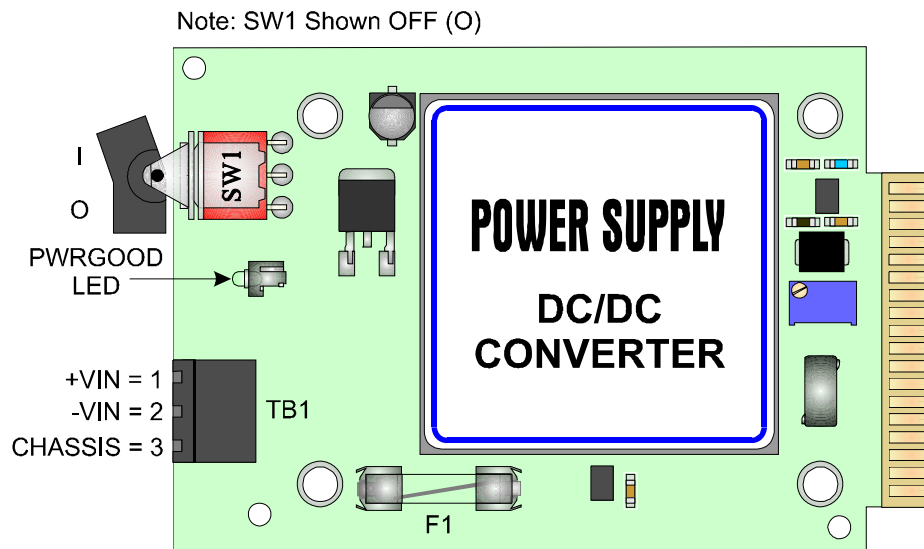
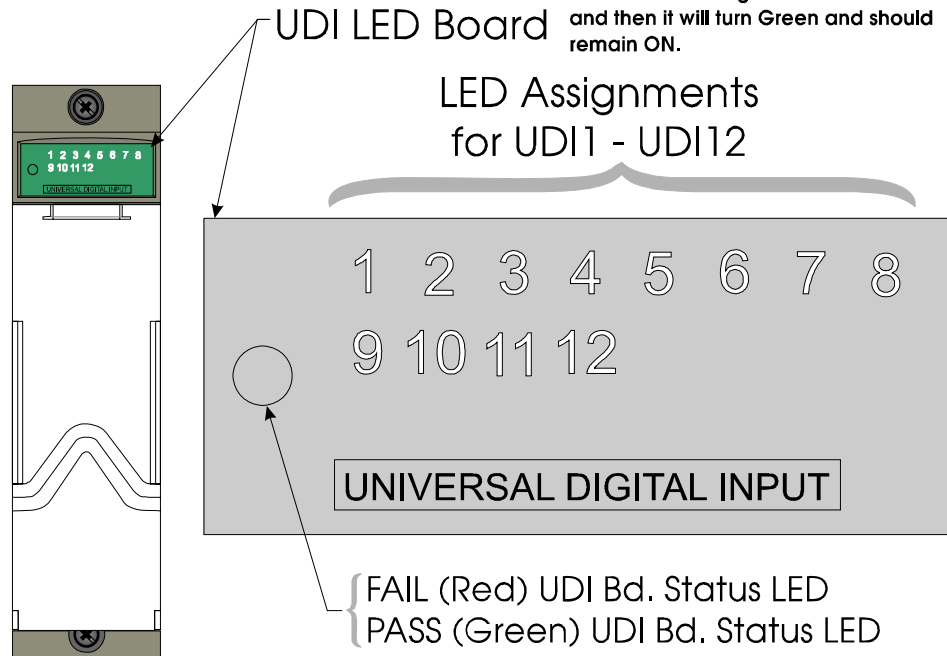

Figure 3-1 - Power Supply/Monitor Board Component Designations
Figure 3-7 - Universal Digital Input (UDI) Module LED Designations
One or two bulk power sources can be connected to the PSMM. PSMM connector TB1 provides 3 input terminal connections for bulk power (see Figure 3-1):
* = see Figure 3-1, ** = see Sections 2.4.2 & 3.4.4, *** = see Figure 3-4, **** = see Figure 3-7